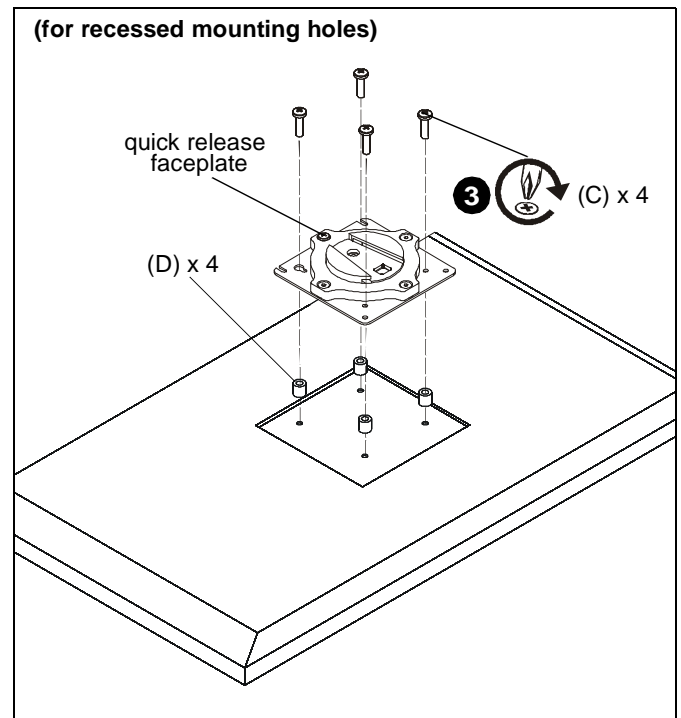

Figure 5
- Place four spacers (D) on top of mounting holes on back of display. (See Figure 5)
- Using Phillips screwdriver, carefully install four M4x25mm screws (C) through corresponding holes on faceplate, spacers (D) and into the mounting holes on the display. (See Figure 5)